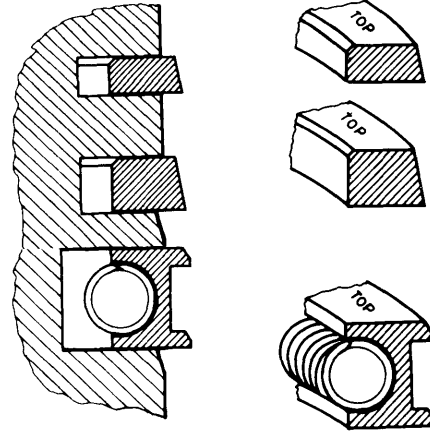

Fig. 9 Sectional View of Piston Ring Installation
2) Position rings in bottom of cylinder and measure ring gap. Check side clearance in piston ring grooves. Install rings on piston with marking "TOP" facing upward as showing in Fig. 9.